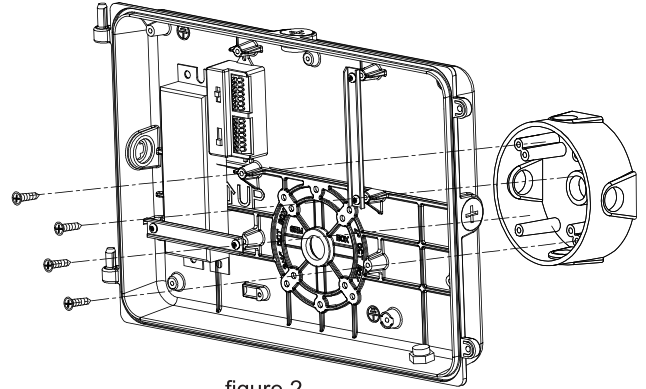

figure 2
Step 2 Attach the rear housing to the wall. (figure 2)